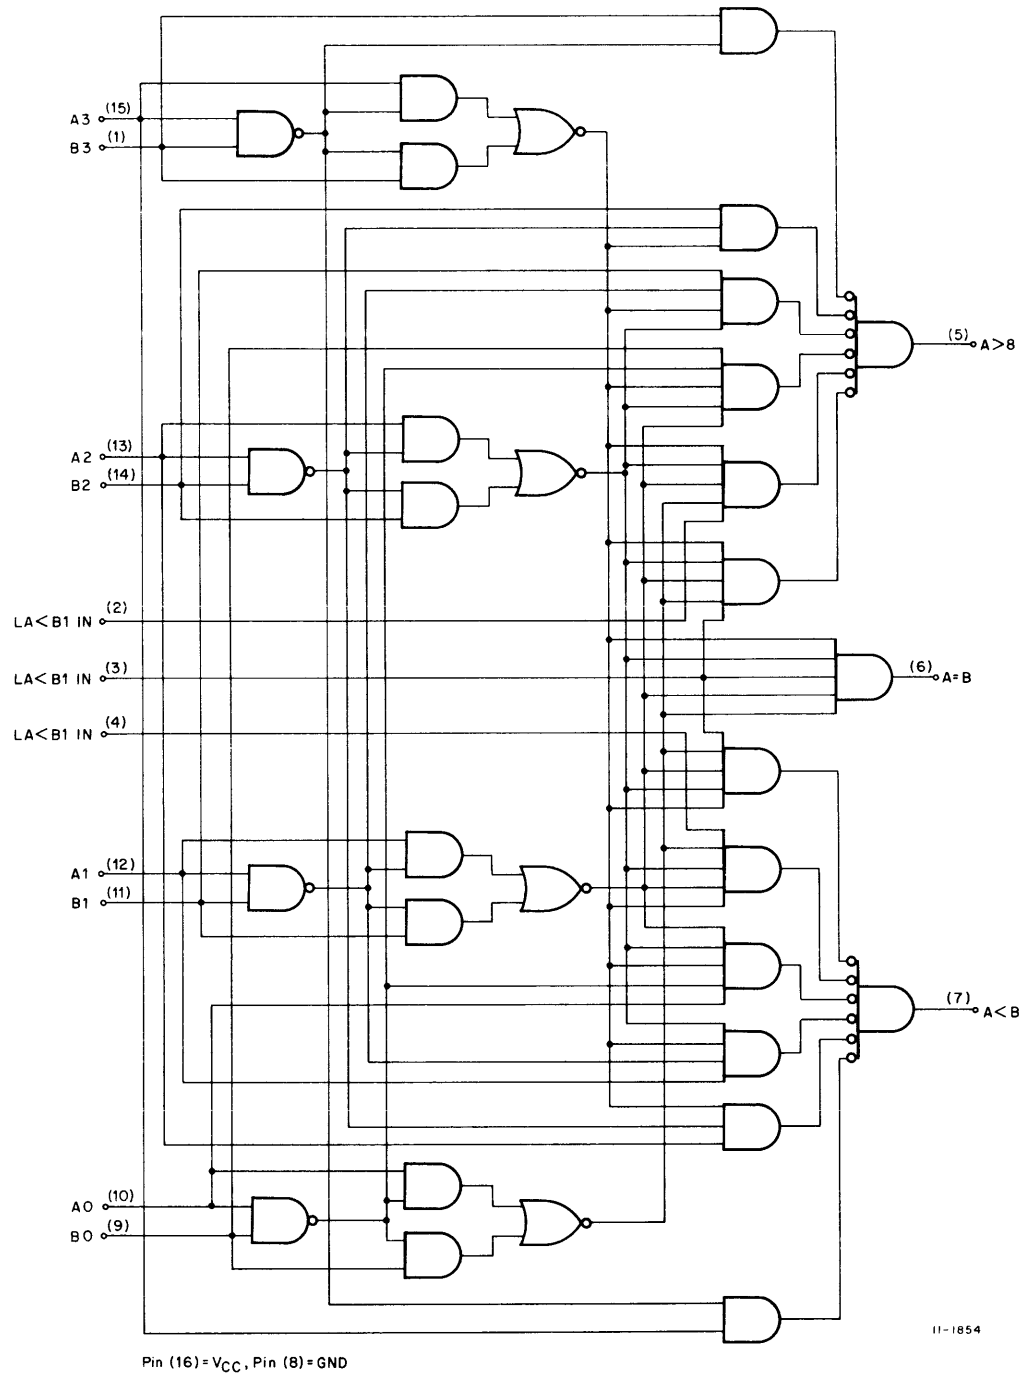

Figure A-4 7485 4-Bit Comparator
A.5 7485 4-BIT COMPARATOR (Figure A-4)